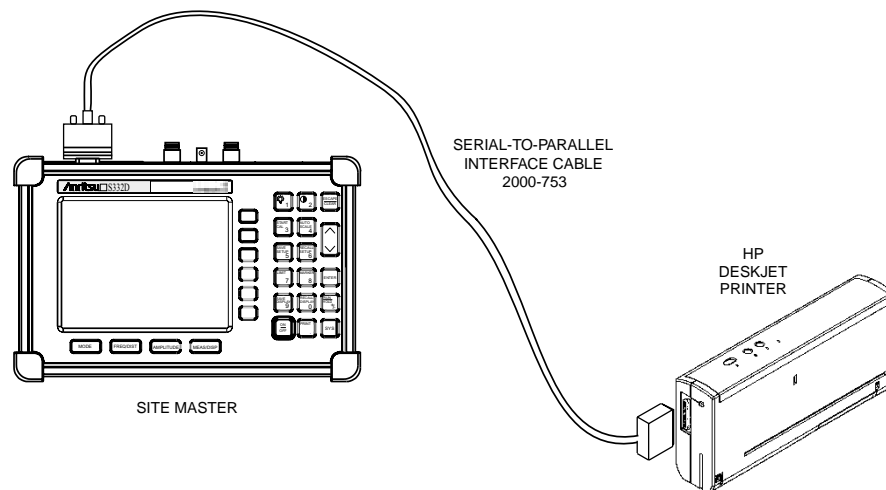

Figure 3-4-. Site Master Printer Setup
- Step 5.** Connect the printer as shown in Figure 3-4.